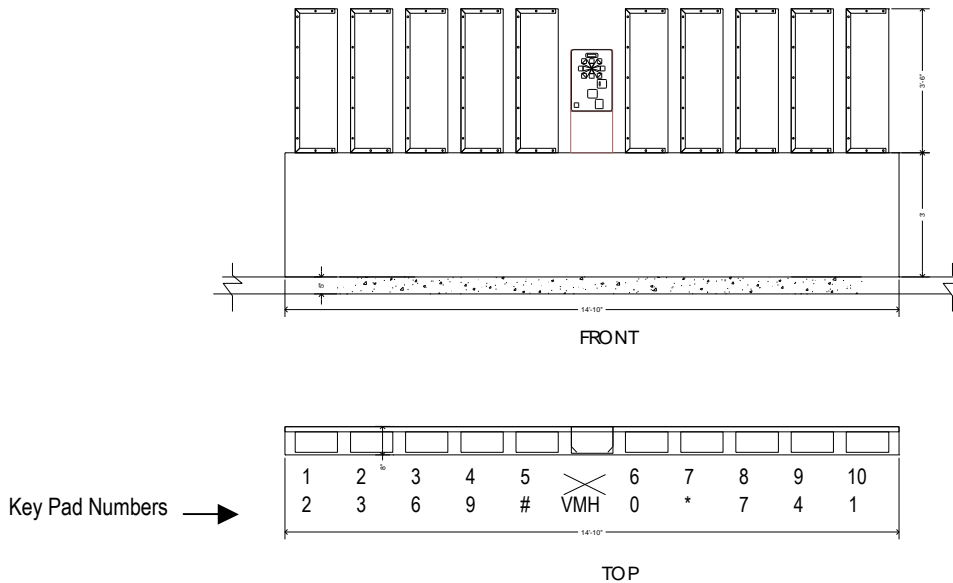

Figure 1
1. Vending islands that are winged the first vendor is to the far left of the vendor meter assembly and continues in order from left to right on the island. See the diagrams for the keypad numbers which correspond to each assigned vendor. **(See Figure 1 and Keypad position on Figure.2)**